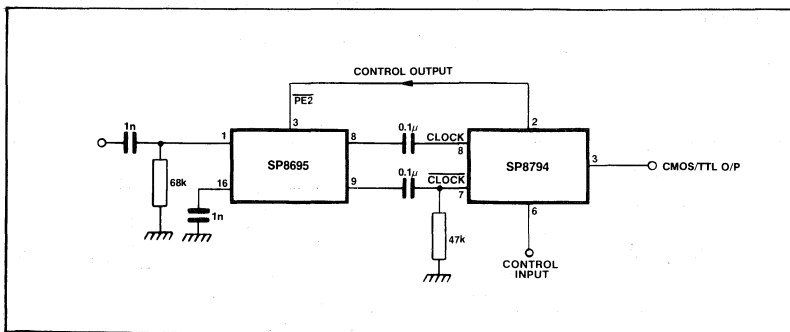

Fig.5 Typical interfacing to suppress self oscillation with no input signal
5. When used as a controller the circuit will self-oscillate in the absence of an input signal. This can be prevented by connecting a 47k resistor from pin 7 to ground, as shown in Fig. 5.
6. The control output which includes an internal 16k pull-down resistor, is ECL compatible and interfaced directly with, for example, the SP8695. See Fig. 5.